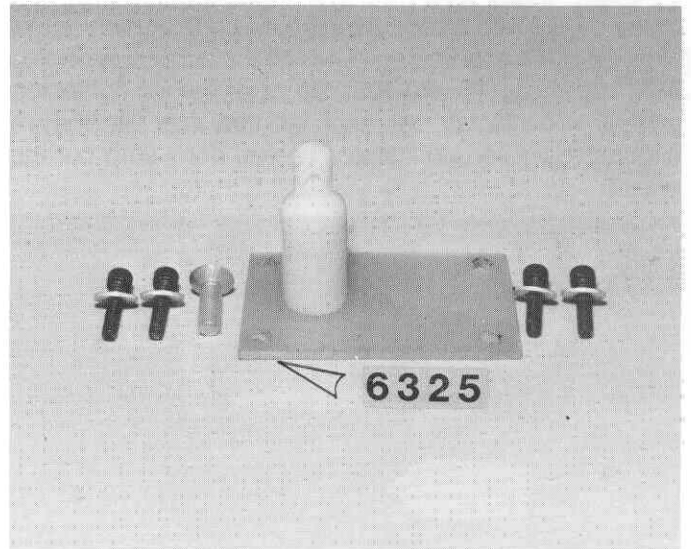

Fig. 104
□ **Fig. 104** Take the #6325 transmission brace and install the rear body mount.